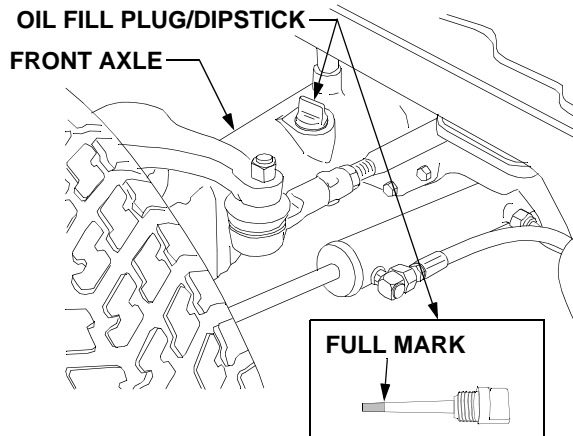
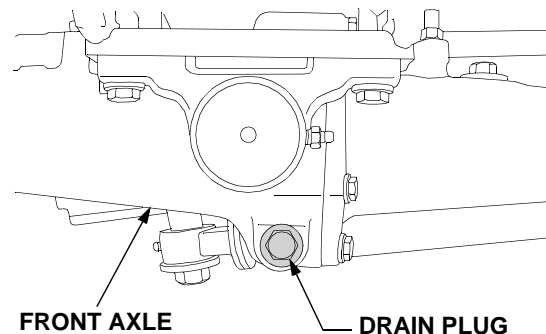

Figure 44
Figure 46
The oil fill plug/dipstick is located on the *left* side of the axle housing. See Figure 44.
- Clean the area around the oil fill plug/dipstick to prevent debris from entering the axle housing. See Figure 44.
- Withdraw the dipstick and wipe it clean, then reinsert and screw in all the way. Unscrew and withdraw again to read the oil level. Always keep the oil level between the bottom and the full mark of the dipstick (See Figure 44).
- Clean the area around the axle drain plug, located at the center front of the axle, and the oil fill plug/dipstick to prevent debris from entering the front axle housing. Refer to Figure 44 and Figure 46.
- Remove the oil fill plug/dipstick to help vent the axle, then remove the drain plug and allow the oil to drain into the container. Reinstall the drain plug after draining the oil. See Figure 46.